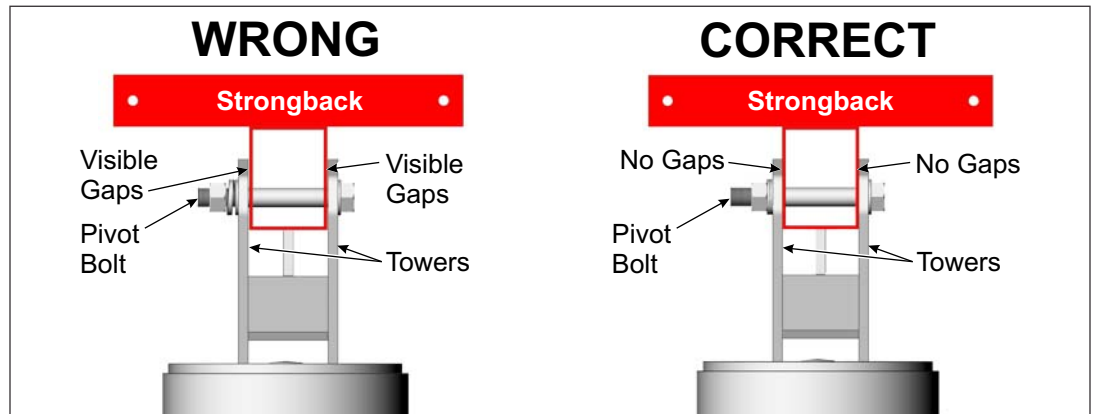

Figure 7-3: Tighten and Torque the Pivot Bolt
- C. Re-tighten the Pivot Bolt. After changing the tilt angle and tightening the Support Bar hardware, the Pivot Bolt must be re-tightened. The Pivot Bolt cannot be left loose - the Mounting Sleeve Vertical Towers must be firmly clamped to the sides of the Strongback eliminating any gaps between the Vertical Towers and the Strongback. **Torque to 330-350 ft.-lbs.** (See Figure 7-3)